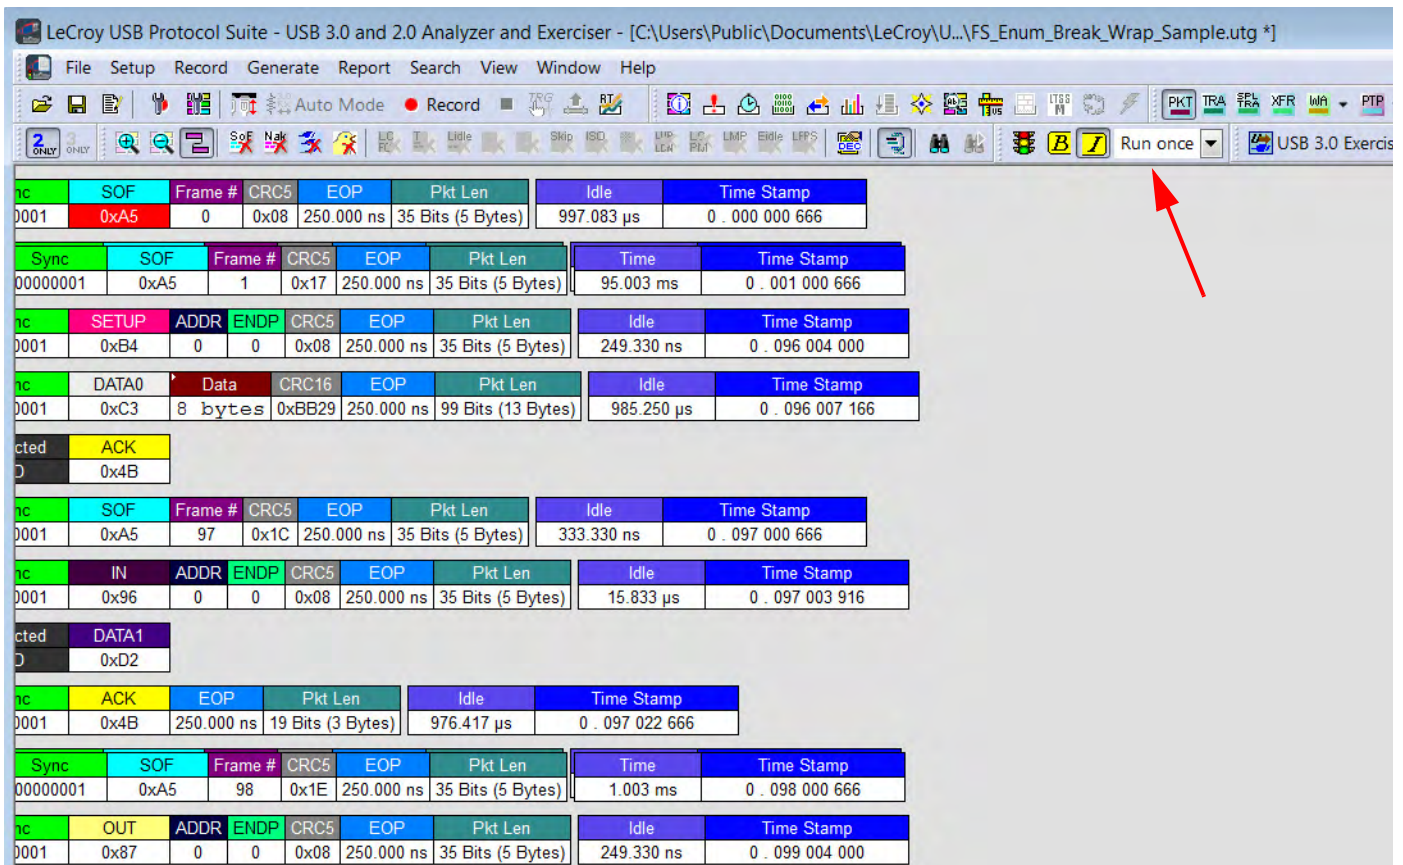

Figure 11.17: Traffic Generation File
4. Click **Open**. The file opens (see Figure 11.17 on page 413.)